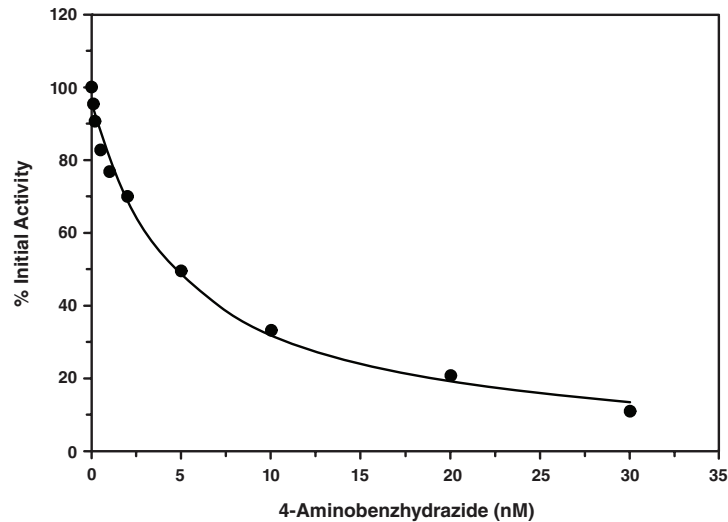

Figure 3. Inhibition of MPO chlorination activity by 4-aminobenzhydrazide ( $IC_{50} = 5 \text{ nM}$ ).
4. If multiple concentrations of inhibitor are tested, graph either the Percent Inhibition or Percent Initial Activity as a function of the inhibitor concentration to determine the  $IC_{50}$  value (concentration at which there was 50% inhibition). Examples of MPO chlorination and peroxidation inhibition by the MPO inhibitor, 4-aminobenzhydrazide are shown in Figures 3 and 4, on pages 14-15.